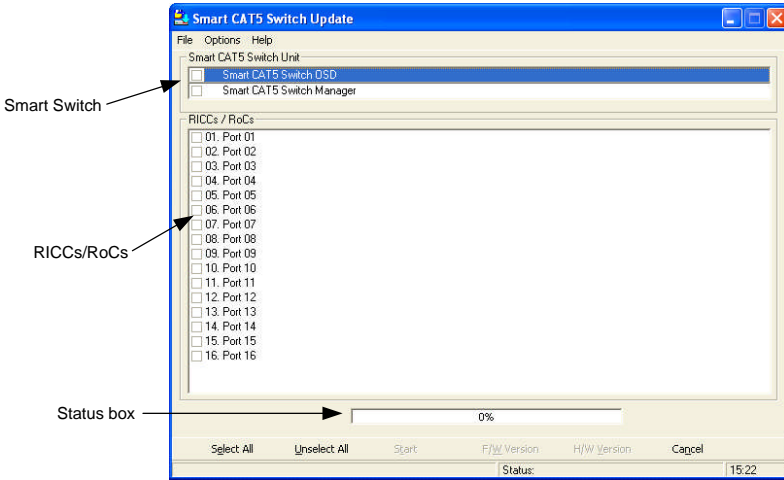

Figure 28 Smart CAT5 Switch Update window
desktop, or choose Start/Programs/Smart CAT5 Switch Update/Smart CAT5 Switch Update. The Smart CAT5 Update window appears. See Figure 28.
- In the **Switch Unit** box, check the OSD option. See Figure 28.